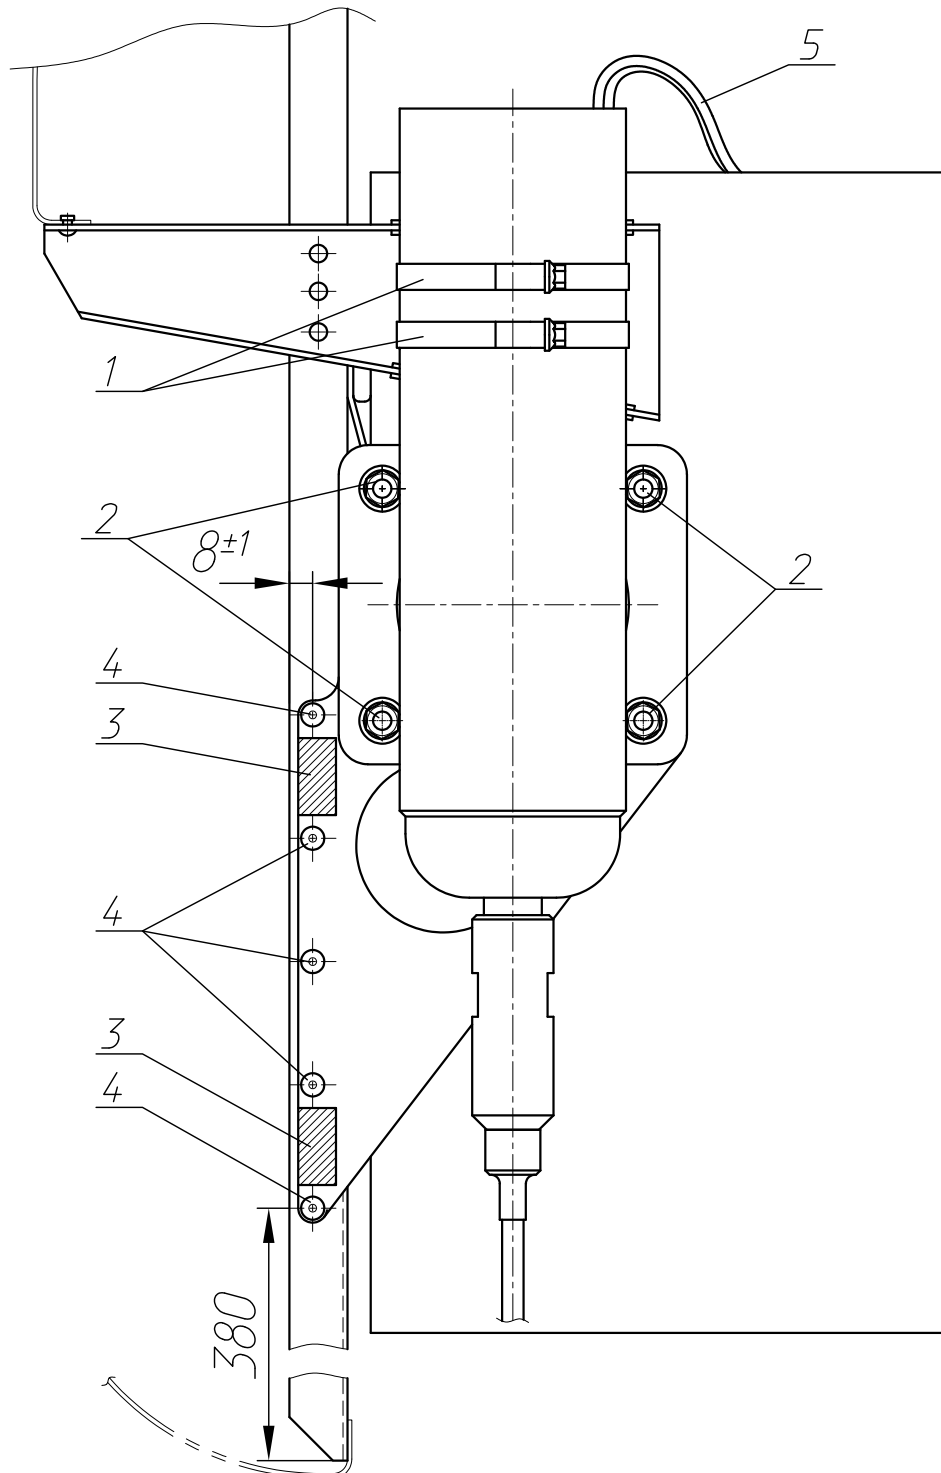

Fig. 1 Front view (opposite to flight direction)
- 3.2) Loosen the screw-clamps (1) and rotate the rocket housing (not taking out from the clamps) so, that its attachment plate is behind the housing (Fig 1).
▲ The cable (5) connecting the rocket and the parachute must not be over the rocket (Fig. 1)
- 3.3) Drill 4 holes (2, fig.1) with \varnothing 6.4 mm drill bit for AN174-5A bolts.
- 3.6) Drill holes (4, fig.1) with \varnothing 4.1 mm drill bit and install pop-rivets 4-8.
- 3.8) Tighten the screw-clamps (1 , fig.1) with 2 N·m torque, and tighten the nuts (2, fig.1).